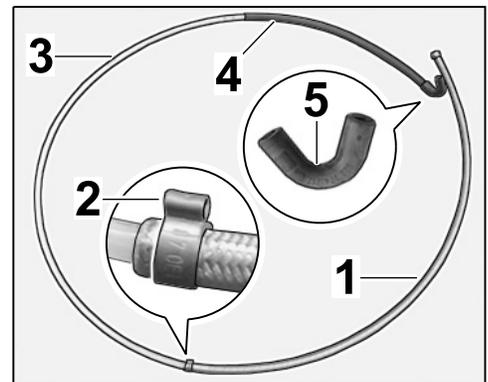

Figure 19
- 3.3 Connect vacuum line (from change-over valve to control box) ⇒ *Figure 19* and lock single-lug clip.